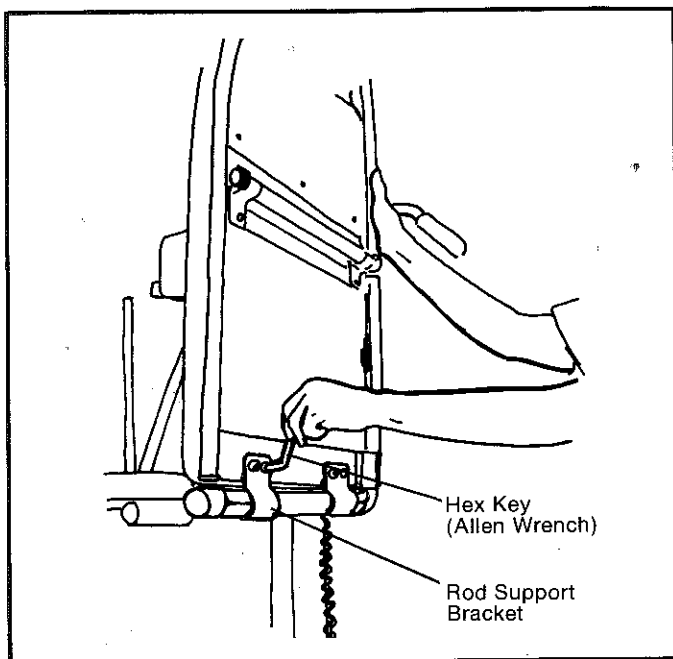

Figure 2-10
4. While supporting rest in its vertical position, using a 5/32" hex key, remove hinges from end pad bumper frame, Figure 2-10. Remove pad and bumper frame from support bar rod. Set hinges, screws and pad with frame attached aside. Repeat step 4 for opposite siderest removal and set these parts aside.